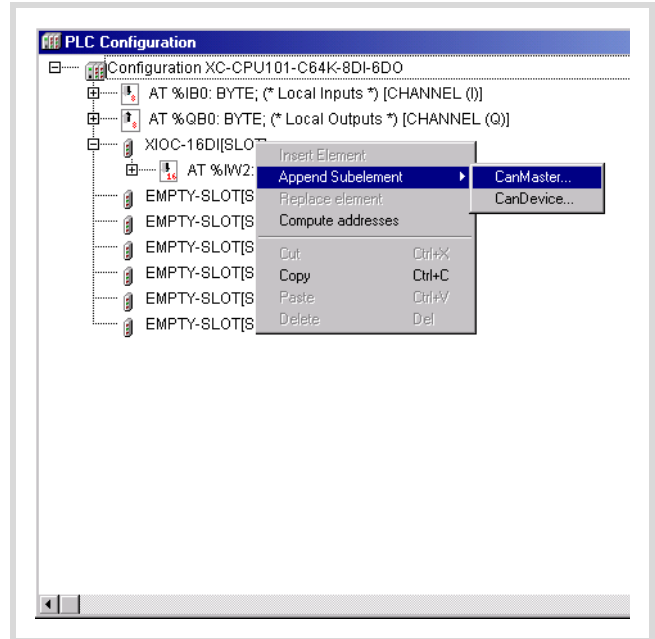

Figure 59: PLC configuration with a CAN Master
- ▶ Right click in the "Configuration XC-CPU101-..." field and select the context menu "Append Subelement → CanMaster" (→ figure 59).